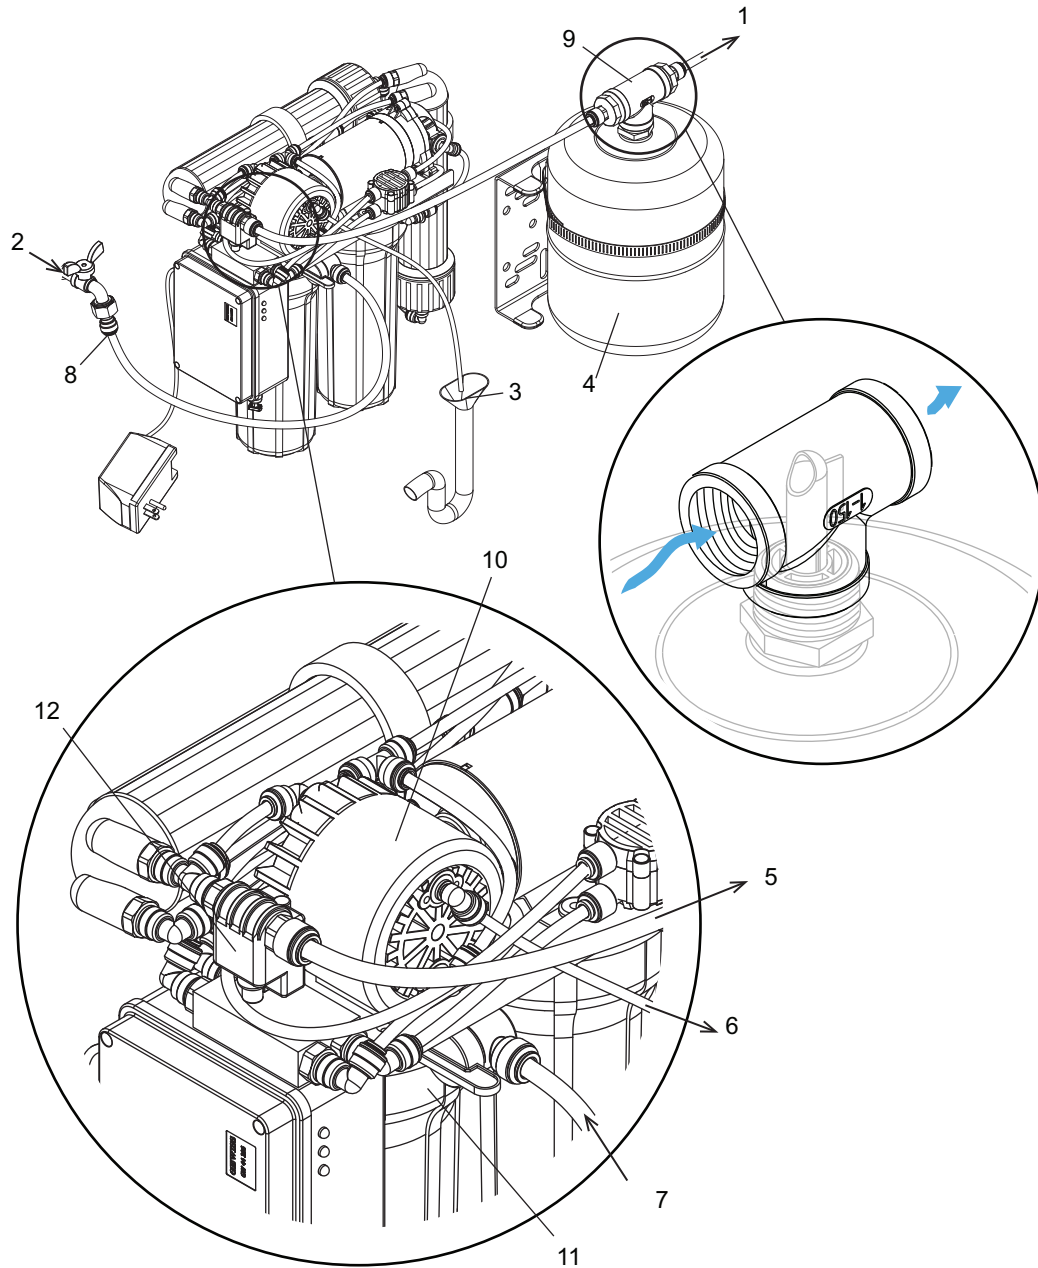

Figure 7 - Supply Water Connection
6. Connect the T-piece connector to the inlet valve on the buffer tank. Ensure that the orientation of the T-piece connector allows water to flow through in one direction only. Water from the RO unit should face the opening of the plastic attachment in the T-piece connector. Refer to Figure 7 on the next page.
1. Fit a tube, 1/4 in minimum, from the discharge port to the air gap funnel (recommended) leading to the drain. Refer to Figure 7 on the previous page.